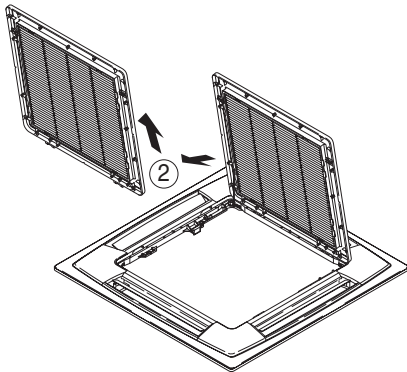

Fig. 1-132
- 3) With the air-intake grille opened, remove the grille hinge from the ceiling panel by sliding it in the direction shown by the arrow ②. (Fig. 1-132) (Reattach the air-intake grille after installation of the ceiling panel.)